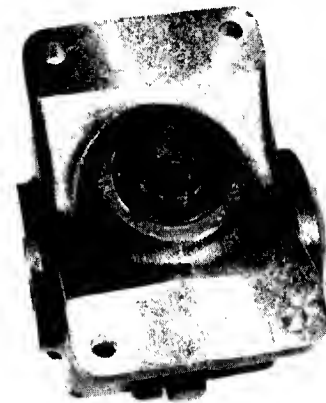

FIG. 10.11--OUTPUT SHAFT AND BEARING INSTALLED IN GEARBOX
16. Install one bearing on output shaft and install in to gearbox against retaining ring, Fig. 10.11.